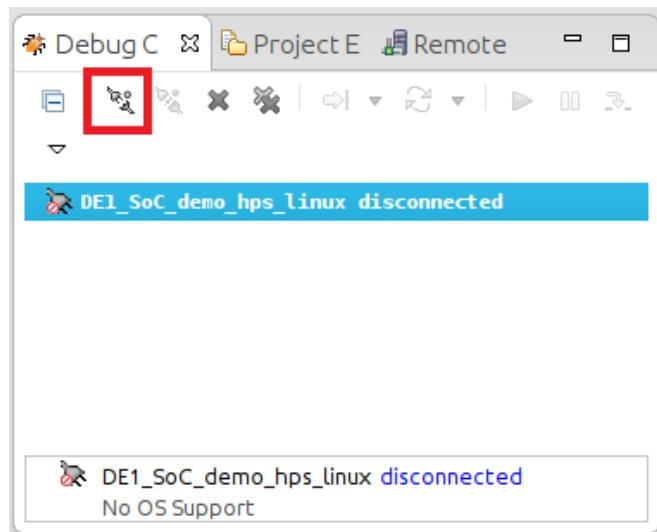

Figure 13-28. Debug Control View
84. In the “Debug Control” view, click on the “DE1\_SoC\_demo\_hps\_linux” entry, then click on the “Connect to Target” button, as shown on Figure 13-28. The debugger will start an SSH connection to the linux distribution running on the DE1-SoC and will automatically transfer our binary file and wait at our application's “main()” function. If you are prompted to log in, then log in with the **ROOT** user and password.